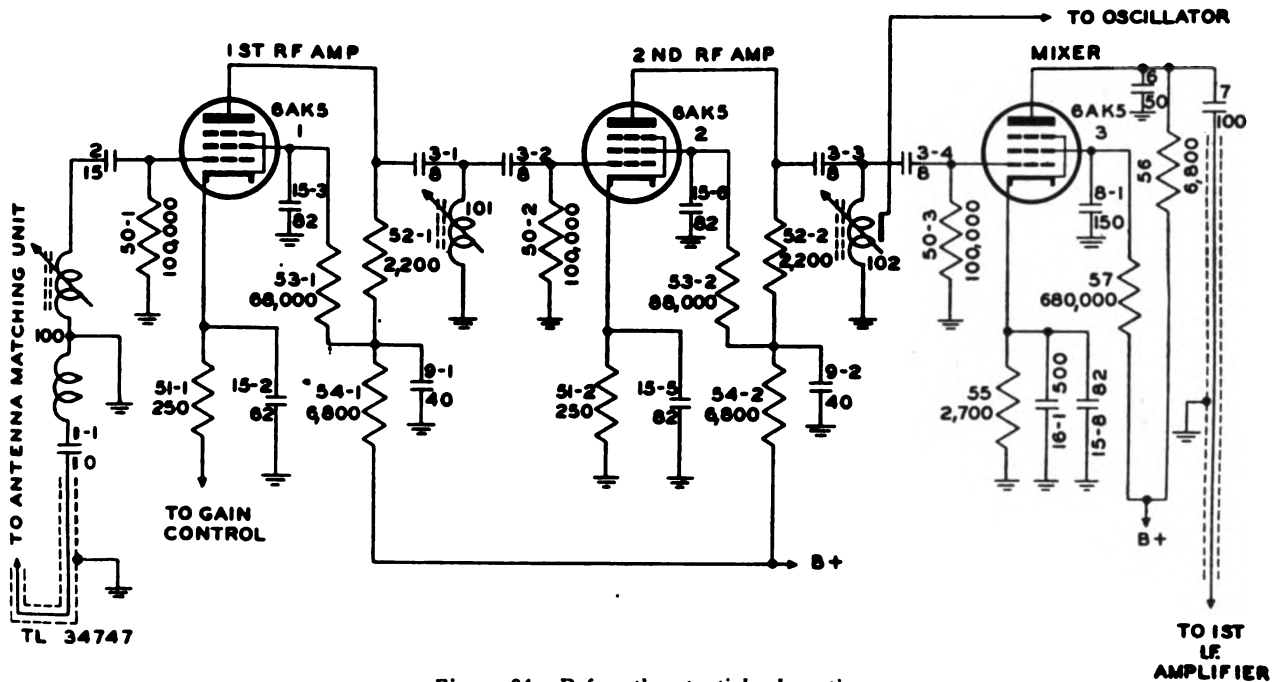

Figure 84. R-f section, partial schematic.
**a. R-F AMPLIFIERS (fig. 84).** The signal is impressed on the grid of the first r-f amplifier, tube 1, through antenna coupling capacitor 1-1, antenna tuning coil 100, and coupling capacitor 2. Resistor 50-1 is the grid leak for the first r-f amplifier. The output is fed to the grid of the second r-f amplifier, tube 2, through coupling capacitors 3-1 and 3-2. Coil 101 is used to tune the output of the first r-f amplifier. Resistor 50-2 is the grid leak for the second r-f amplifier. The three r-f circuits and the oscillator circuit are permeability tuned. An adjustable, powdered iron core inside the windings of coils 100, 101, and 102 varies their inductance, thus providing a means for tuning the individual circuits. Since there are no capacitors across the coils, the capacity of the tuned circuits is dependent upon the distributed capacities of the coil windings and the interelectrode capacities of the tubes. The method of coupling the antenna to the r-f section is shown in figure 84. The coupling coil consists of a half turn of silver wire placed around the first r-f amplifier tuning coil 100. One end of coil 100 is grounded and resonates with capacitor 2 approximately in the middle of the band. The coaxial line from the antenna-matching section is soldered directly to capacitor 1-1. The input impedance is approximately 50 ohms.
**c. MIXER.** The output from the plate of the second r-f amplifier is fed to the grid of mixer tube 3 through coupling capacitors 3-3 and 3-4. Resistor 50-3 is the grid leak for the mixer tube which is a 6AK5 pentode tube (fig. 84) used for mixing the incoming radio frequency with the output of the local oscillator. The oscillator is capacity coupled to mixer coil 102. The two signals are heterodyned within the mixer tube to produce an i-f signal in the plate circuit. The output of the mixer tube is connected to the grid of the first i-f amplifier tube 5 through a shielded cable.